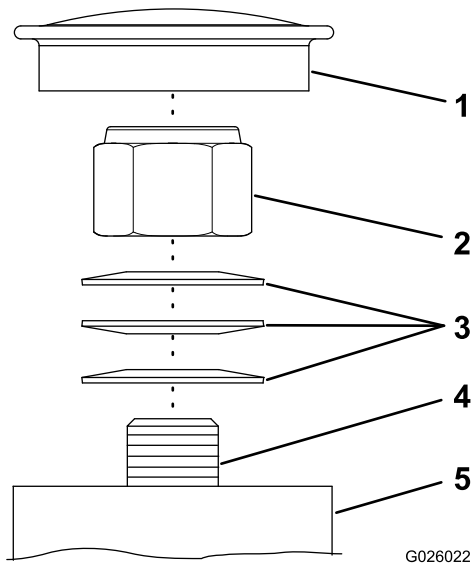

Figure 48
Note: If you disassemble the caster pivot bearings, ensure that the spring-disc washers are installed as shown in Figure 48.
1. Remove dust cap from caster hub (Figure 48).
2. Tighten the locknut clockwise until spring-disc washers are flat (Figure 48).
3. Rotate the locknut counterclockwise 1/4 of a turn (Figure 48).
4. Install the dust cap (Figure 48).